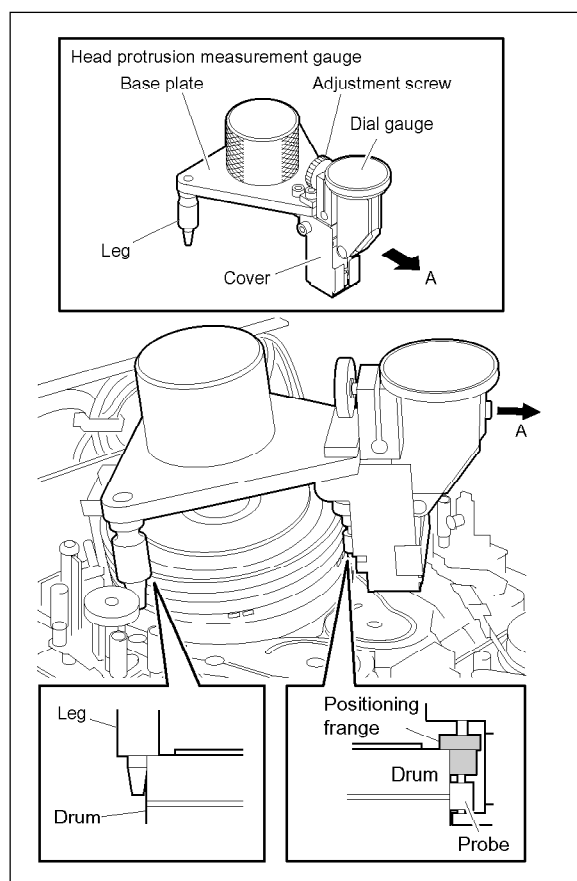

Figure 3. Setting of Head Tip Protrusion Measurement Gauge
1. Loosen the adjustment screw fully by turning it counterclockwise. (Refer to Figure 3.)
2. Clean the probe, positioning flange, and portion contacting the drum of two legs. (Refer to Figure 3.)
6. Lower the measurement gauge slowly until the ridges of the two legs and positioning flange touch the upper drum while pushing two legs against the outer circumference of the drum's upper surface (applying force slightly to the measurement gauge in the direction indicated by the arrow). (Refer to Figure 3.)
3. Lift up the positioning flange from the outer circumference of the drum's upper surface to a few millimeters, and then lift the measurement gauge slowly and remove it while pushing two legs against the outer circumference of the drum's upper surface (applying force slightly to the measurement gauge in the direction indicated by arrow A). (Refer to Figure 3.)